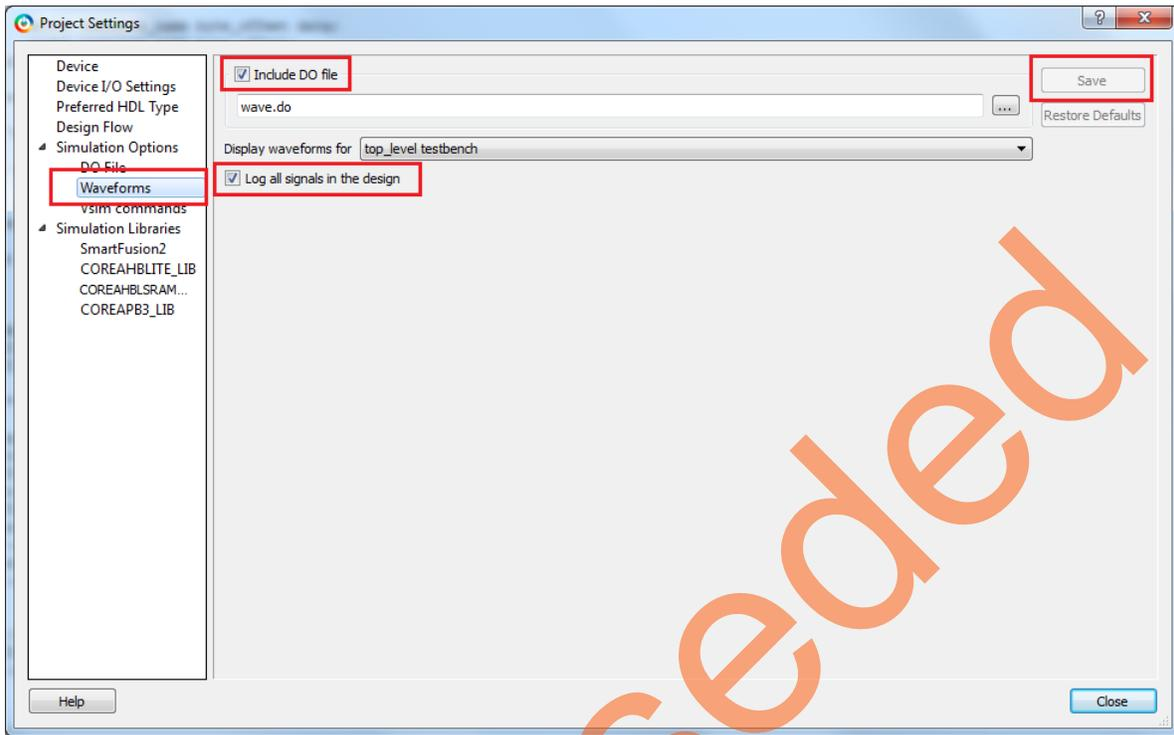

**Figure 25 • Project Settings – Do File**
- Select **Project > Project Settings**. On the Project Settings window, under **Simulation Options**, select **DO File** to change the simulation run time. Enter **50us** in the **Simulation Runtime** field, as shown in Figure 25.